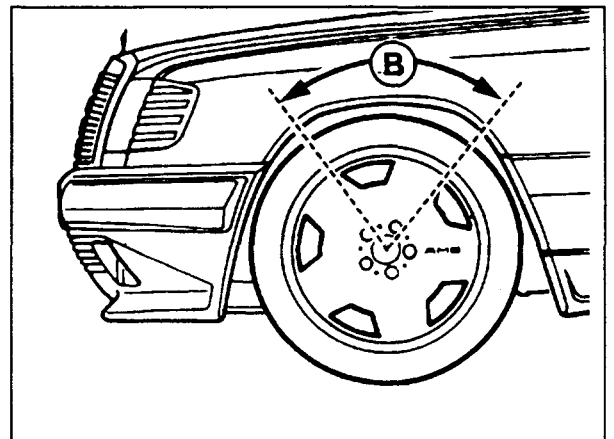

Figure 19
12. The inside edge of the front fenders must be rebent to an angle of 60° over the complete wheel cutout (B, Figure 19) to accommodate the wider wheels and tires.
15. The fender lip is reworked over the entire area (B, Figure 19) in several stages. A plastic hammer must be used to avoid damaging the paint.